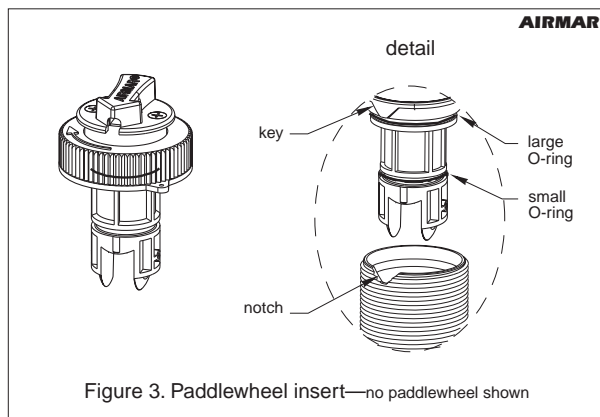

Figure 3. Paddlewheel insert—no paddlewheel shown
5. After the sealant cures, inspect the O-rings on the paddlewheel insert (replace if necessary) and lubricate them with the silicone lubricant supplied (see Figure 3).